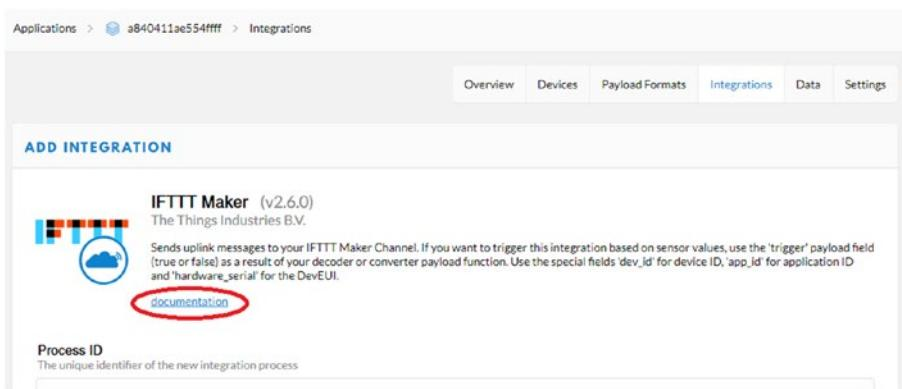

Figure 8-24. The documentation link will open the page at https://ifttt.com/maker_webhooks.
4. Click the “documentation” link (Figure 8-24).